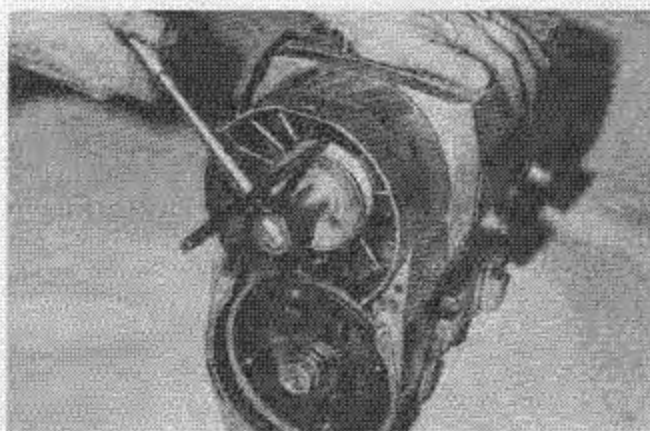

Fig. 19 — Removing Blower Pulley Nut
- a. Insert a punch into hole in housing and hole in fan hub and remove nut as shown in Fig. 19.